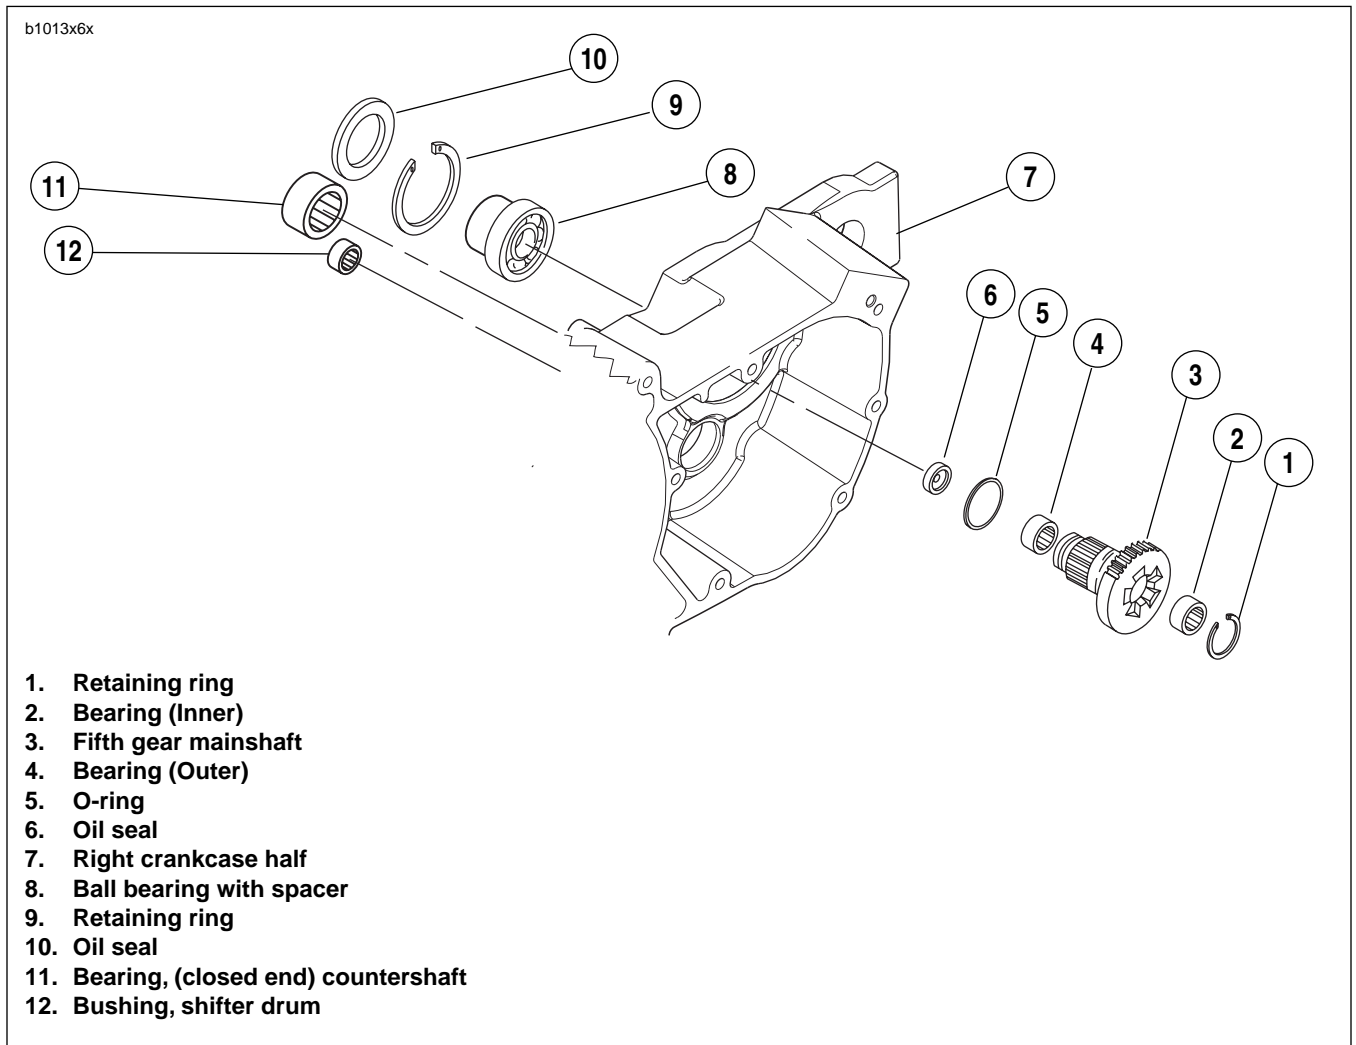

Figure 6-66. Transmission Assembly-Right Crankcase Half
See Figure 6-66. When removing the main drive gear (3), the gear is pressed out against the resistance of the ball bearing (8) inner race. Without any support at the inner race, the bearing is destroyed. Whenever the main drive gear is removed the main drive gear bearing must also be replaced.
1. See Figure 6-66. At outside of case remove and discard oil seal (10). Remove and discard main drive gear bearing retaining ring (8).
6. See Figure 6-66. At outside of case install **new** beveled retaining ring (9) in groove inside bearing bore with beveled side facing outside of case.